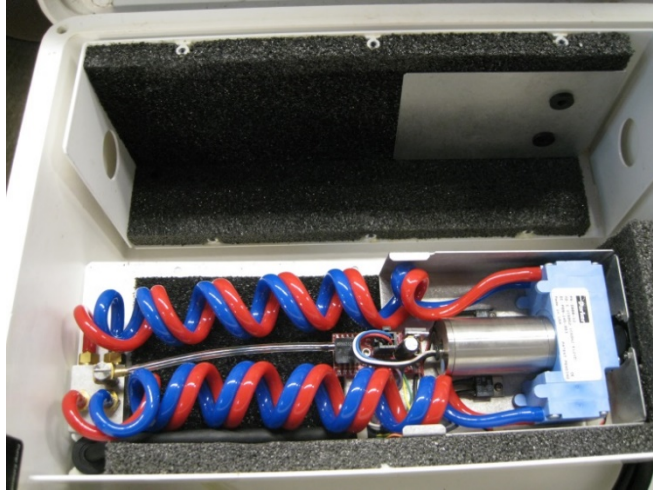

FIGURE H-4. Exposed CPEC300 pump assembly
5. Once the screws are removed, fold back the pump assembly from the shell bottom as shown in FIGURE H-4.